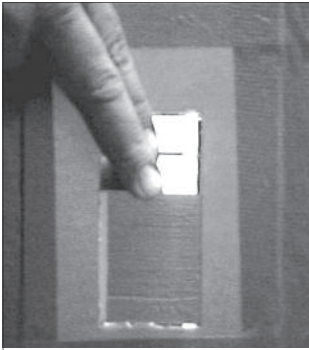

Figure 9
- Bend both tabs down and through the duct at the first bend point (Figures 9 & 10).